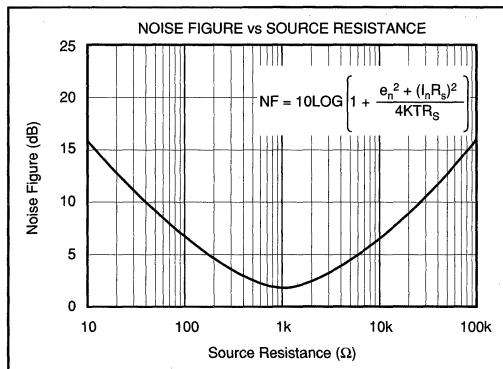

FIGURE 9. Noise Figure vs Source Resistance.
The OPA642 voltage and current noise spectral densities are specified in the Typical Performance Curves. For RF applications, however, Noise Figure (NF) is often the preferred noise specification since it allows system noise performance to be more easily calculated. The OPA642's Noise Figure vs Source Resistance is shown in Figure 9.